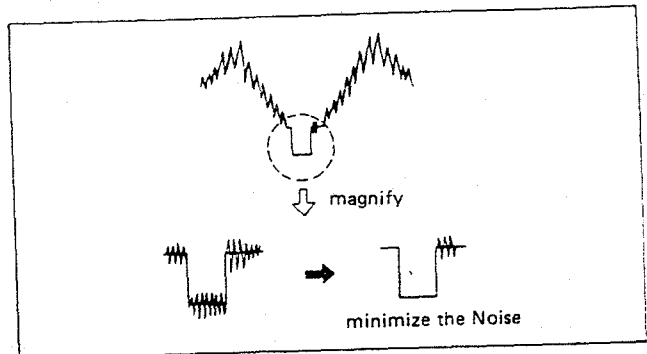

Fig. 20
5. While rotating the T104 core, effect adjustment to minimize the sound signal on the synchronous signal. (See Fig. 20)